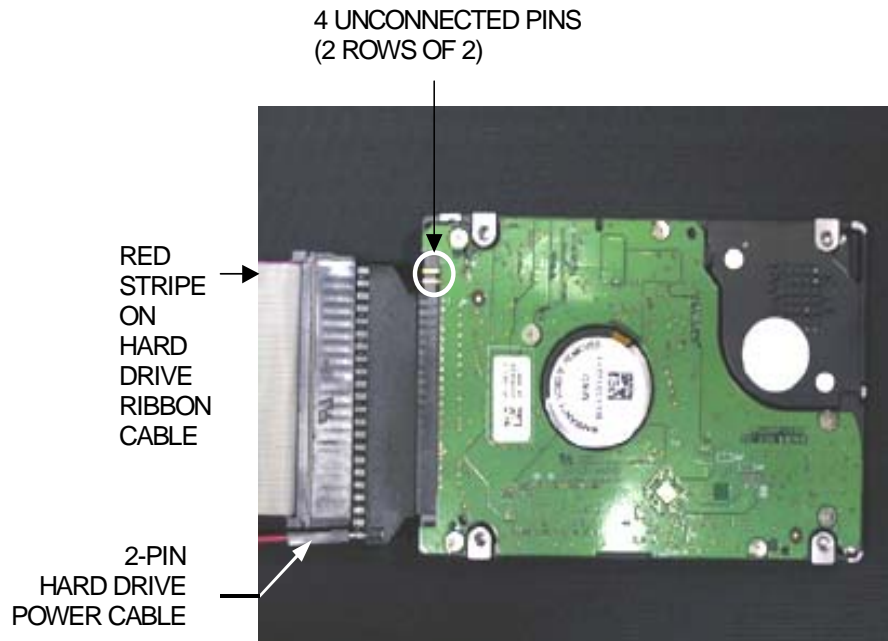

FIGURE 4- CIRCUIT-BOARD SIDE OF HARD DRIVE
4. Connect the hard drive cables to the hard drive. *If your Fusion has a hard drive ribbon cable:* note that 4 pins on the hard drive are set off and will remain unconnected. Make certain that the red stripe on the ribbon cable, indicating pin-1 position, is inserted facing the unconnected pins, and on the opposite side of the 2-pin hard drive power cable. See Figure 4.